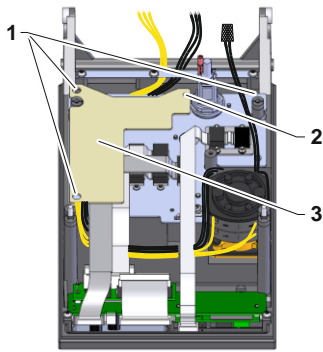

Fig. 7: Mounting the insulating plate
- Affix 2x or 3x (for 27853-2, 27853-4) M4x8 spacer bolts onto mounting screws (label 1 → Fig. 7) on interface plate.
- Affix 1x M3x9 spacer bolt (for 27853-1, 27853-3) onto mounting screw (label 2 → Fig. 7) on interface ZO.
- Click insulating plate (label 3 → Fig. 7) into place on spacer bolts.